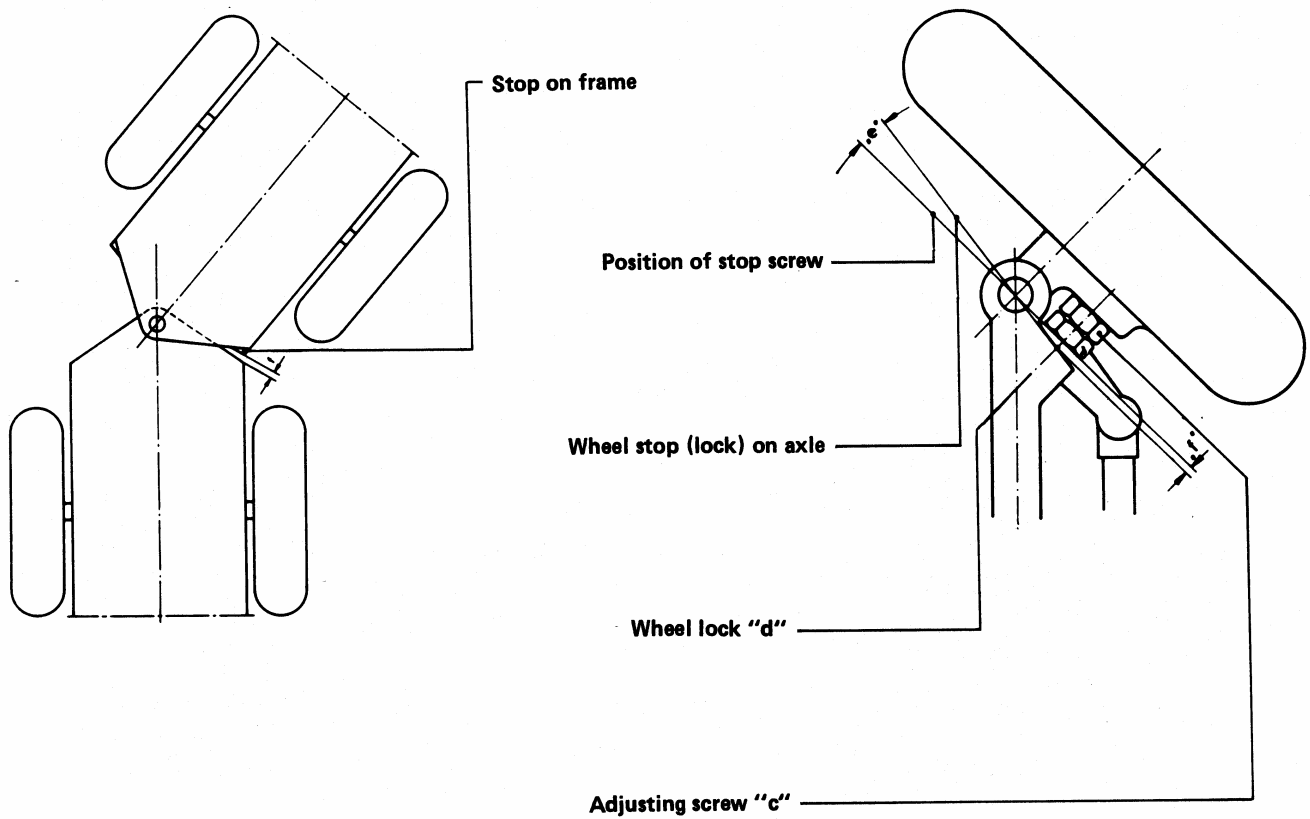

Figure 4.
■ In Fig. 4, the distance "f" is the clearance between the wheel-stop components which should be 1 - 3 mm when the hydraulically remote-controlled or mechanical steering-lock limitation responds.
Vehicle carrying normal load, steered wheels not raised clear of the ground, engine running. Turn steering wheel to right until full lock is almost applied (if necessary, use a spacer of 2 - 3 mm in thickness) (Fig. 4). Switch off engine and release steering wheel (steering will return to neutral position, the steering wheel turning through approximately 1/4 of a turn).